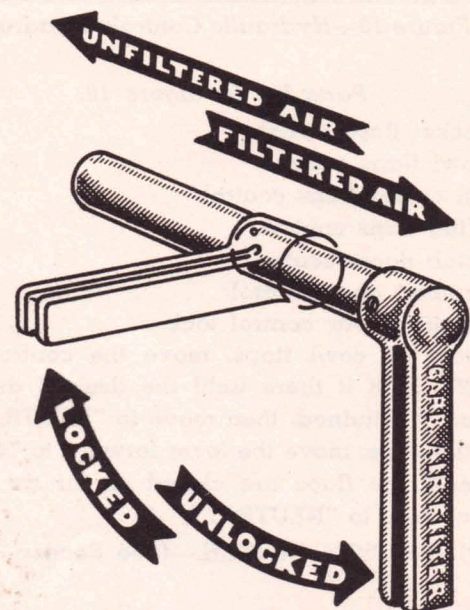

Figure 9—Air Filter Control
(7) CARBURETOR AIR FILTER CONTROL.—The "L" shaped handle on the right side of the instrument panel marked "CARB AIR FILTER" (see figure 9), controls four openings in the engine speed ring through which air is drawn when filtered air is necessary; that is, when operating under sandy or dusty conditions. For filtered air, pull the "CARB AIR FILTER" control handle fully aft and lock by rotating one-quarter turn clockwise. Filtered air cannot be obtained with the "ALTERNATE CARB AIR" control in the ALTERNATE (pulled aft) position.